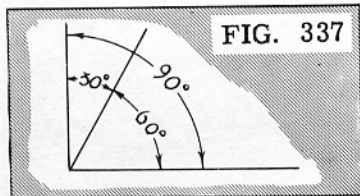

FIG. 337
3. The two angles contained in a right (90°) angle are called complementary angles. Each is called the complement of the other (Fig. 337).